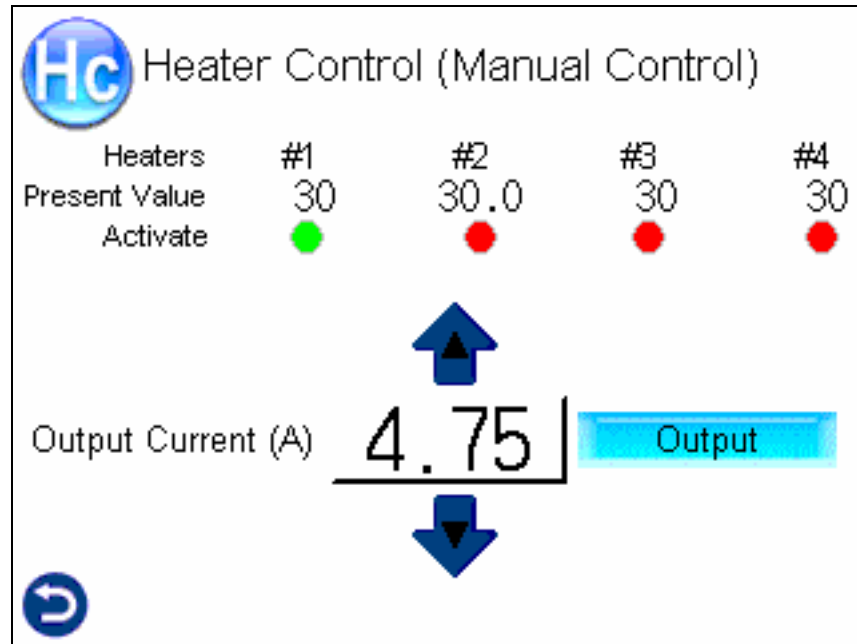

Figure 3-22. Manual Control
2. Go to Manual Control (Figure 3-22) by pressing .